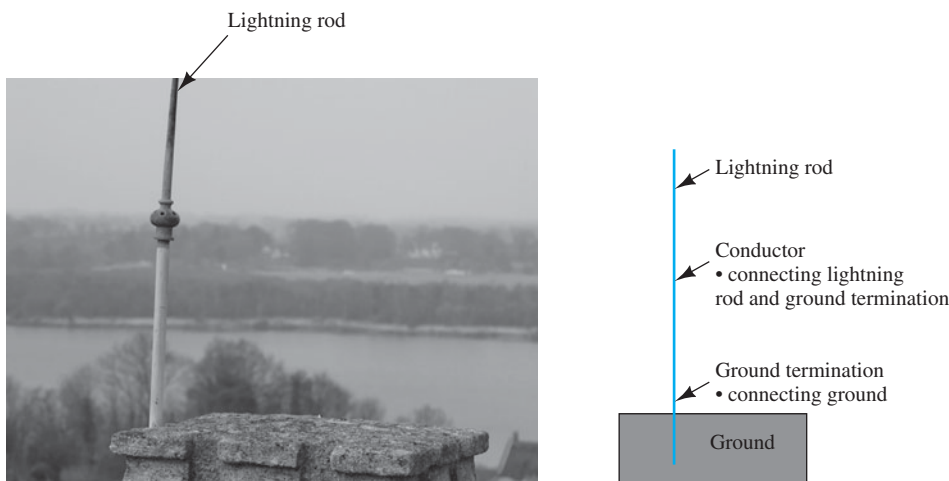

FIGURE P15.12 Building with a lightning rod and the basic structure of it. (Used with permission from © Michael Hawkrigde/Alamy.)
- 15.12** (B) Why can a lightning rod installed on the top of a building protect the building from lightning strikes (see Figure P15.12)?